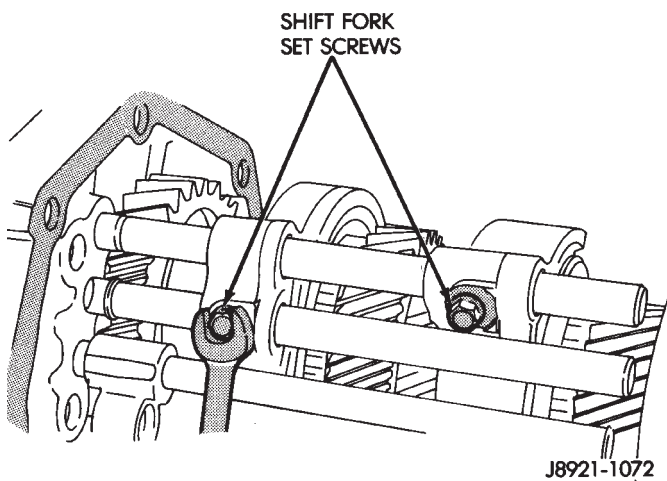

Fig. 43 Removing Shift Fork Set Screws
(3) Remove shift fork set screws (Fig. 43).